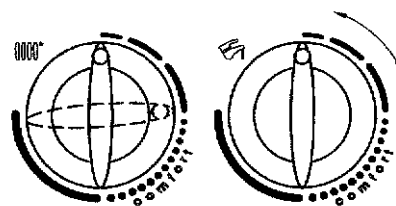

Fig. 22B
- 2) Starting in this position, quickly turn control knob 6 twice consecutively clockwise through about a 1/4 turn as shown in figure 22B.